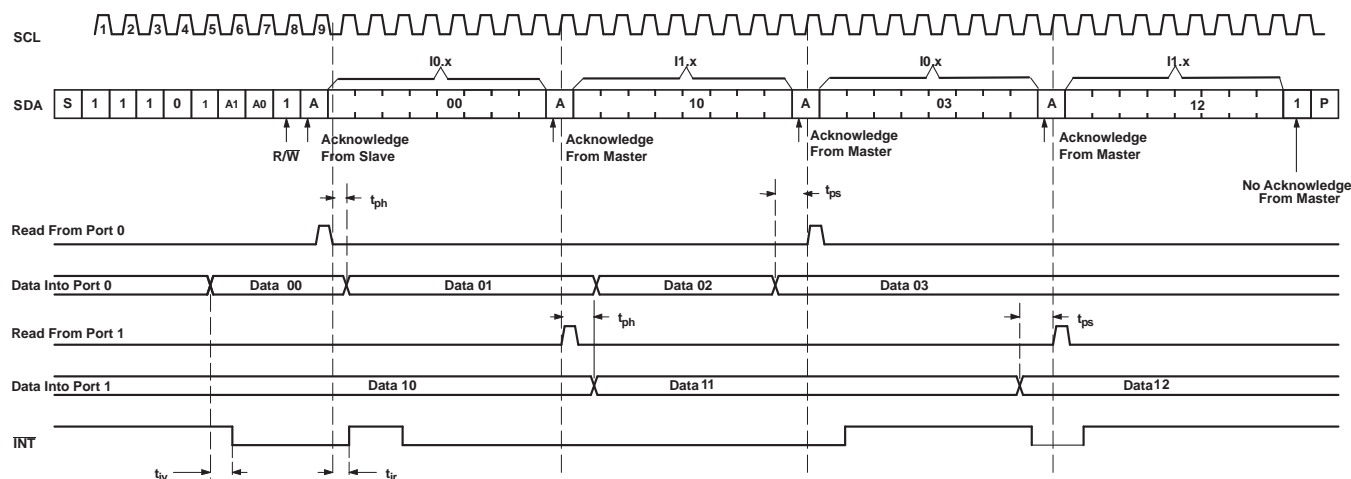

**Figure 8. Read From Register**
The bus master first must send the TCA9539 address with the least-significant bit set to a logic 0 (see Figure 4 for device address). The command byte is sent after the address and determines which register is accessed. After a restart, the device address is sent again, but this time, the least-significant bit is set to a logic 1. Data from the register defined by the command byte then is sent by the TCA9539 (see Figure 8 through Figure 10).
- This figure eliminates the command byte transfer, a restart, and slave address call between the initial slave address call and actual data transfer from the P port (see Figure 8 for these details).